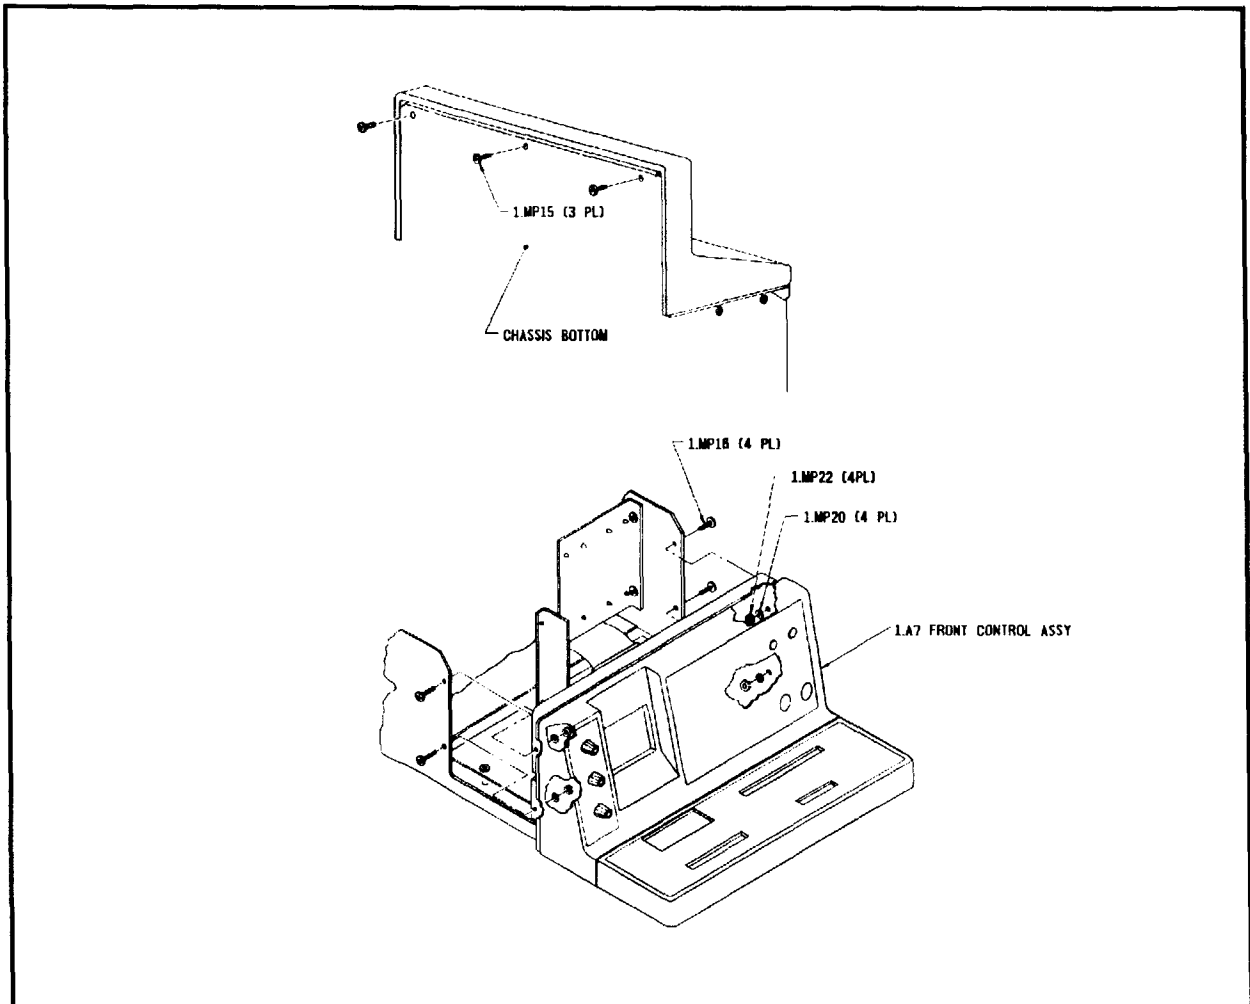

Figure 3-8. Front Control Assembly Removal.
5. Front Control Assembly (Figure 3-8)